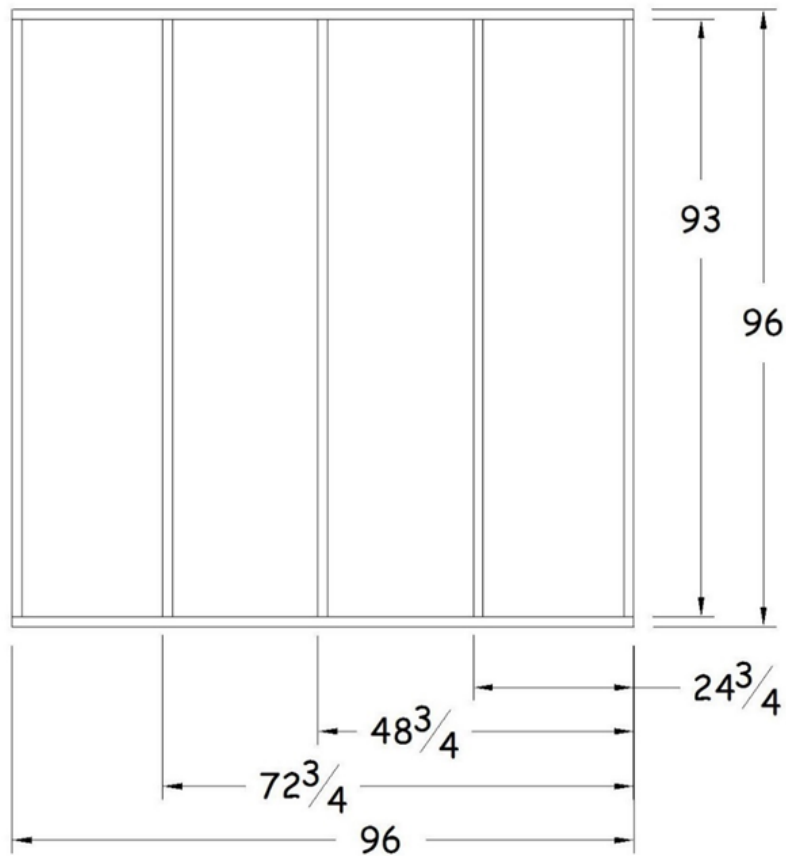

Figure 22-1. Floor Framing.
3. Assemble the floor section as shown in Figure 22-1. Screw through the end plates into the end of each floor joist using two 2½" deck screws in each joist.